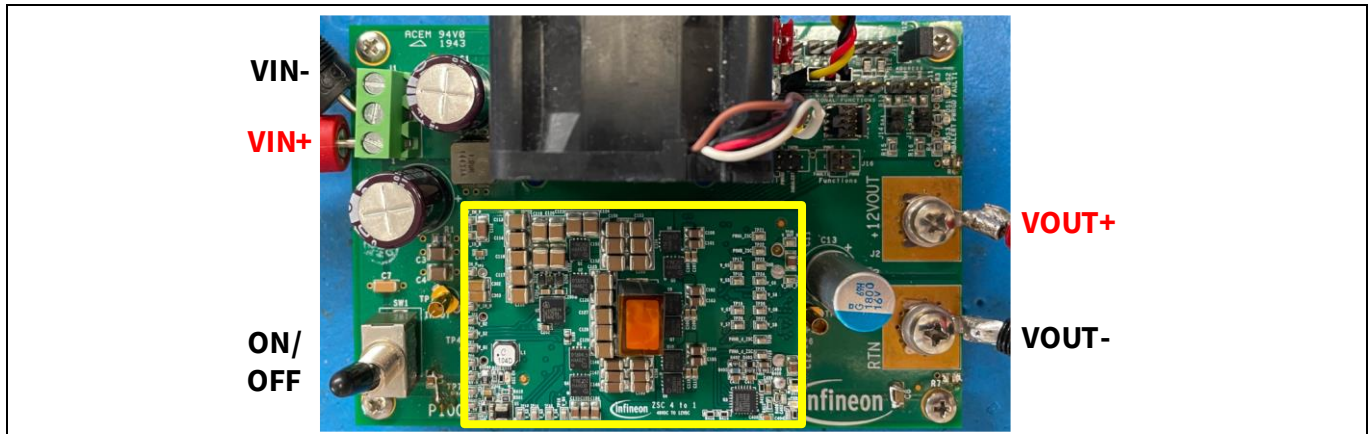

Figure 6 ZSC quarter-brick mounted on the test fixture
The ZSC quarter-brick can be mounted on a standard test fixture, as shown in Figure 6. The input and output connections and the on/off switch that controls the EN pin logic level are also highlighted.
- Connect the power supply (PSU) and electronic load to the connectors as shown in Figure 6.